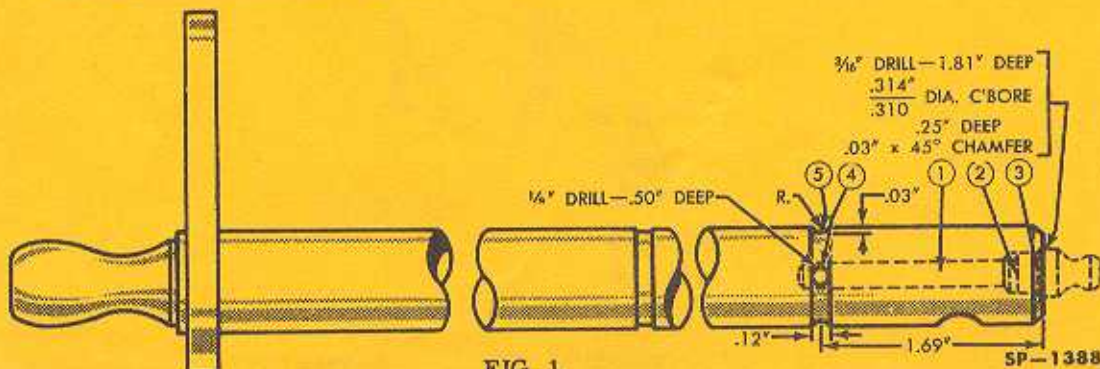

FIG. 1.
- Drill a 3/16" hole 1-13/16" into the end of the clutch cross shaft (see No. 1 Fig. 1).
- Counterbore a 5/16" hole 1/4" deep. (See No. 2 Fig. 1).
- Chamfer the counterbore .03" deep at a 45° angle. (See No. 3 Fig. 1).
- Locate and center punch a point on the shaft 1 11/16" from the frame side rail and end of the clutch cross shaft and drill a 1/8" hole 1/2" deep, perpendicular to the hole drilled into the end of the shaft. (See No. 4 Fig. 1).
- f. By using a round file, or turning in a lathe, make a groove with a radius $1/8''$ wide and $.03''$ deep all the way around the cross shaft at the point where the $1/8''$ hole was drilled. (See No. 5 Fig. 1).